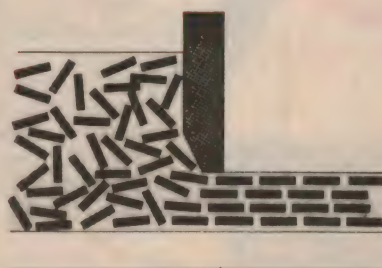

Fig. 10
2. Proper adjustment of the rheological characteristics of the fluid coating during application—flow orientation (Fig. 10).